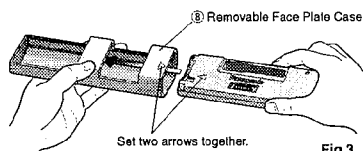

Fig.3
- As shown in Fig.3, insert the removable face plate with the arrow pointing toward the removable face plate case until you hear a "click". Keep the removable face plate in the case. Then, you can bring the plate safely.